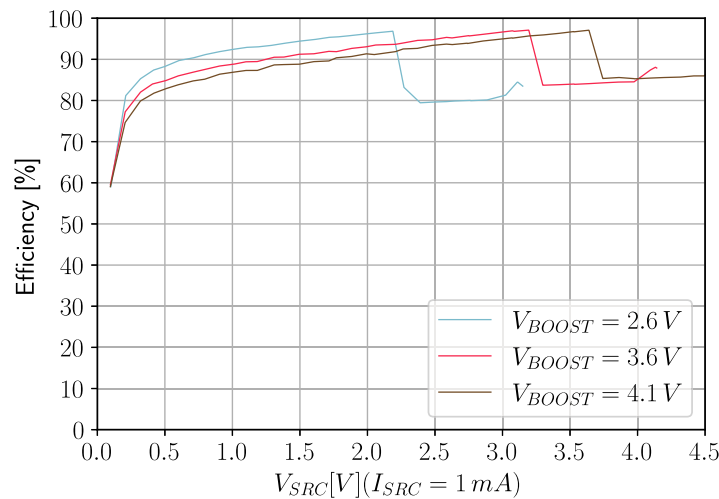

Figure 11: Boost efficiency for $I_{SRC} = 1 \text{ mA}$ ($L_{BOOST} = 22 \mu\text{H}$)
- **VBOOST**: measure the current and the voltage. Repeat the measurement a copious number of times to be sure to capture the current peaks. Figure 11 has been obtained by averaging over 400 measurements configured with a 800 ms integration time.